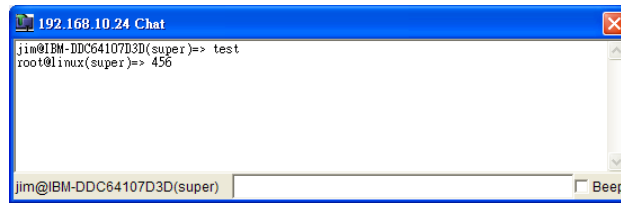

Figure 11-7
- Chat Window: This feature allows the user to chat with each other via the IPMI connection. Please refer to Figure 11-7.